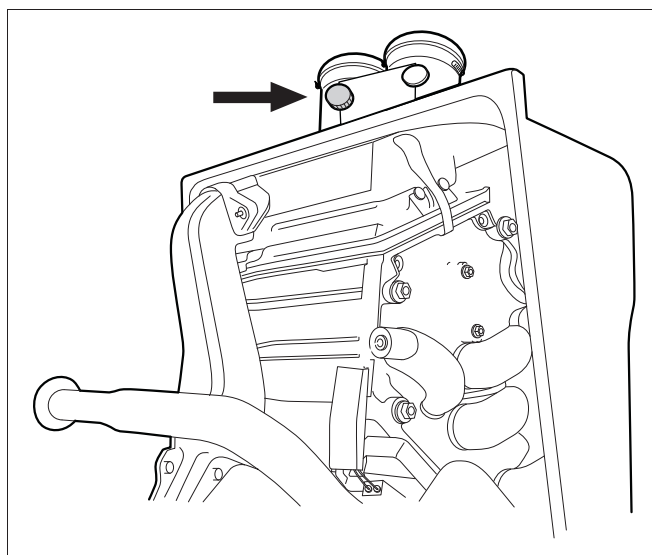

Fig. 38 Flue gas sampling point
- Measure the carbon monoxide content on the flue gas sampling point (see fig. 38).